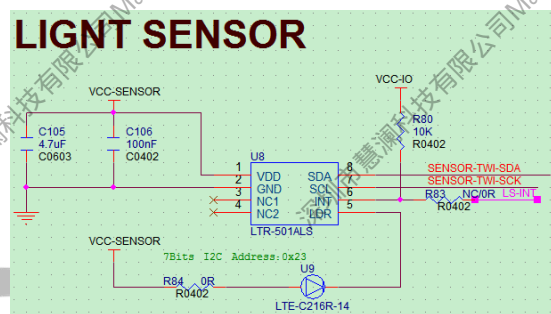

Figure 2-54 The Circuit Design of LIGHT Sensor
- The interrupt signal of the SENSOR is connected to the PH port of R818 by default, if a SENSOR needs to be worked in standby mode, please keep the power supply of the SENSOR working normally in standby mode, and connect the interrupt port to PL port. Such as the circuit design of the LIGHT sensor shown in Figure 2-54.